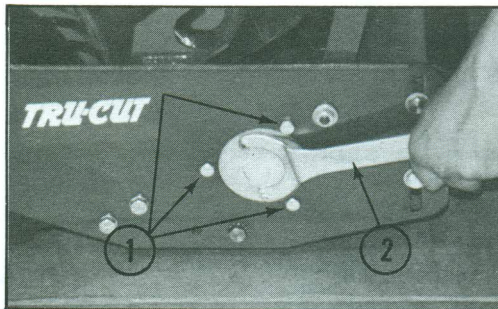

FIGURE 3
- A. Loosen three cap screws (Item 1 Figure 3) each side common to bearing retainers. Loosen just enough to allow the retainers to move under hard pressure.
- B. With spanner wrench (Item 2 Figure 3) rotate each side forward until reel contacts bedknife lightly and evenly end to end. Do not excessively tighten reel to bedknife. After adjustment light finger pressure should rotate the reel.